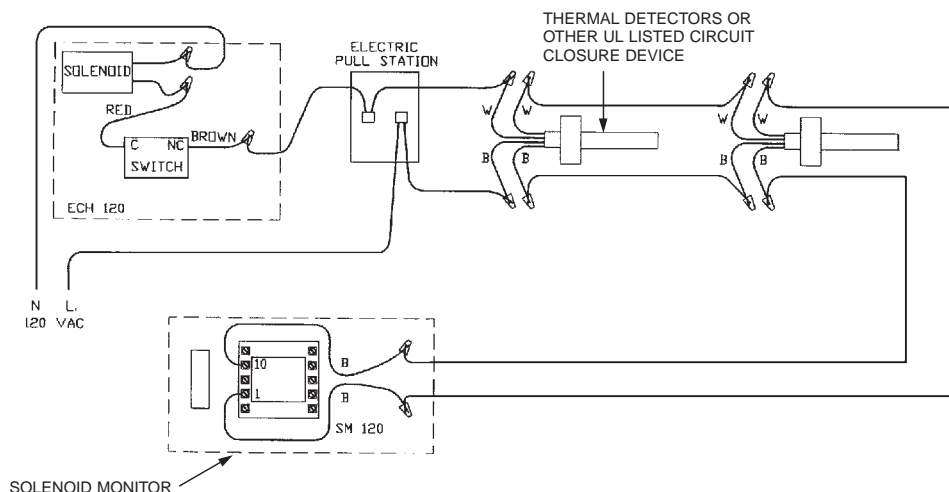

Figure 4-14.1. Wiring Diagram, Solenoid.
▶ circuits using the Model SM-120 shall be 14 gauge minimum, or as required by local code. The basic wiring diagram for both the Model SM-24 and Model SM-120 is shown in **Figure 4-14.1**.
The Model RPS-E2 remote electrical pull station is used for remote actuation of the Model ECH3 Control Head. It is to be located near an exit in the path of egress from the hazard area no more than 4 ft. (1.2 m) above the floor. The Model RPS-E2 is installed in the detection/actuation circuit and wired in accordance with the instructions included. See **Figure 4-14.1** for typical circuit wiring.